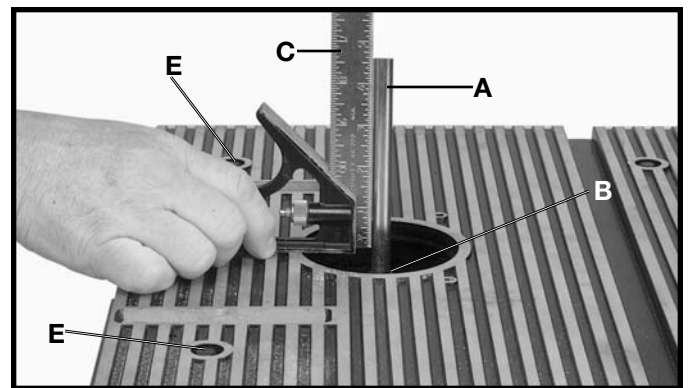

Fig. 25
3. Insert a “straight” section of 1/2 inch diameter metal rod (A) Fig. 25, which is at least 6 inches in length, into router collet (B), and tighten collet (B) as you would a router bit.
4. Using a square (C) Fig. 25, either on the front or rear of the table, place one end of the square against the metal rod (A) as shown. Check to see if the table surface is 90 degrees to metal rod (A) (front to back). If an adjustment is necessary, proceed as follows:
5. Loosen two screws (E) Fig. 25, that fasten the rear of the table to the cabinet.